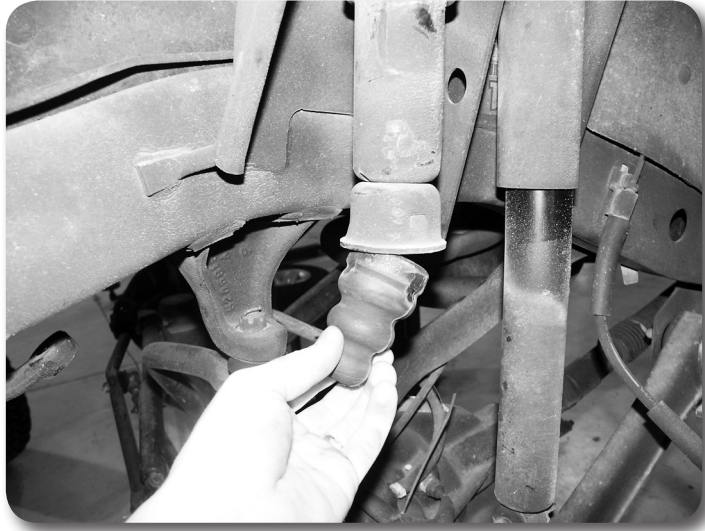

Figure 5
11. Remove the factory rubber bump stop from the upper coil mount **Figure 5**. Large pliers can be used to pull it out. Remove the factory bump stop retainer cup by removing the bolt from the center. Save bumpstop, cup and hardware.